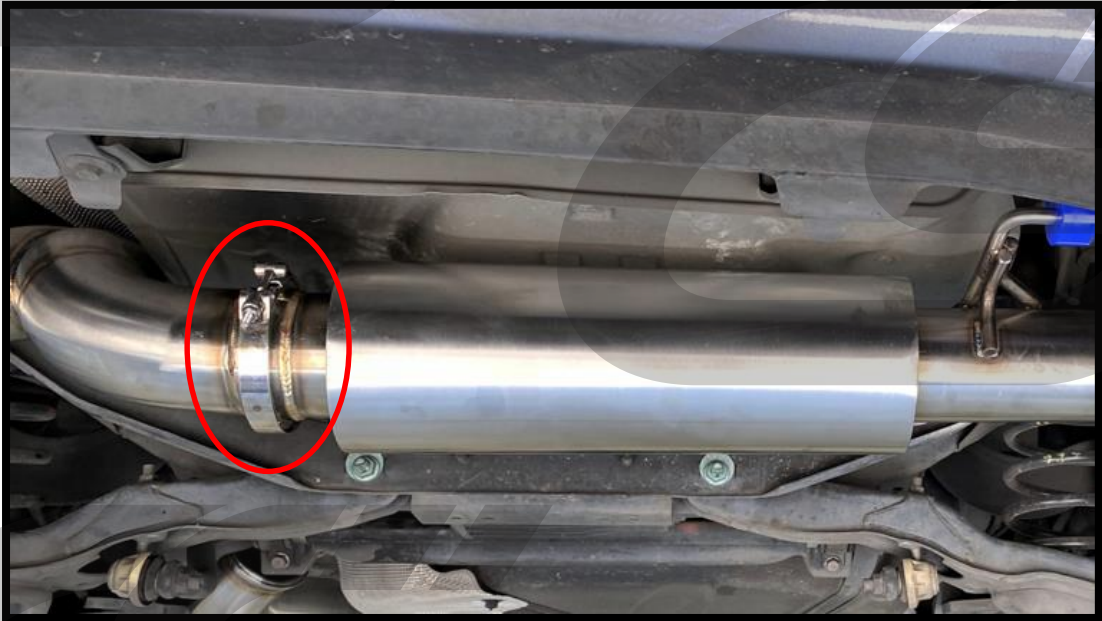

Figure 6f
- g) Line up the two tips sections with one another at the v-band flanges. Use the clamp installed previously to secure the two sections together. Only tighten enough to keep the pipes in place, the clamp will be fully tightened later. Shown complete in **Figure 6f**. The pipes should still be able to rotate.